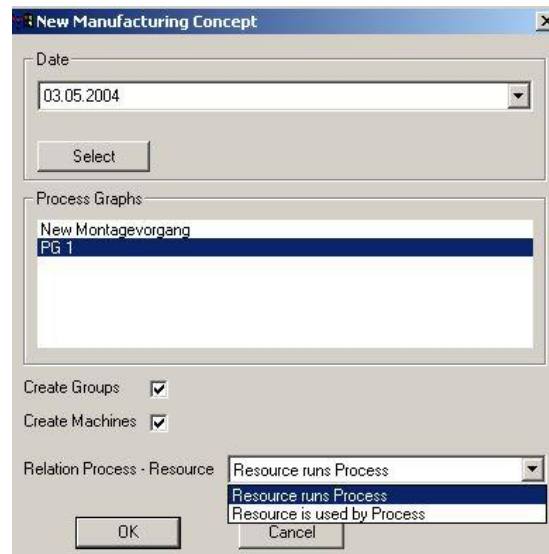

Figure 8: New Manufacturing Concept
<p>Please refer to the Figure 8.</p>	<p>Creating a new Manufacturing Concept.</p> <p>Select circulation for relation dialog</p>
The Manufacturing Concept processes the displayed processes in a Process Graph and assigns them to resources such as machines, assembly stations, or manual workstations. The processes created in the Process Graph are only transferred to the new Manufacturing Concept if you checkmark the Create Groups and the Create Machines fields in the **New Manufacturing Concept** dialog. Please refer to the Figure 8.
- 2) Click **Select** button (Figure 8) to open the required dialog.
If you want to create a Manufacturing Concept on the basis of a Process Graph, the respective Process Graph must have been created beforehand. Previously created processes are displayed in the dialog (Please refer to the Figure 8) below the Process Graphs. If you want to create a Manufacturing Concept **without a Process Graph**, no Process Graph must be selected and the **Create Groups** and **Create Machines** fields must be disabled (do not checkmark). Please refer to the Figure 8.
- 2) To create resources for processes in the Process Graph of the Manufacturing Process, enable **Create Groups** and **Create Machines**. This is done by checkmarking the two fields. Please refer to the Figure 8.
- 5) The **Define relationship between plantypes fr...** dialog allows you to define the relationships between the plantypes from the Process Graph and the Manufacturing Concept. This dialog is only available if both fields, i.e. **Create Groups** and **Create Machines**, have been enabled. *Please refer to the Figure 8.*